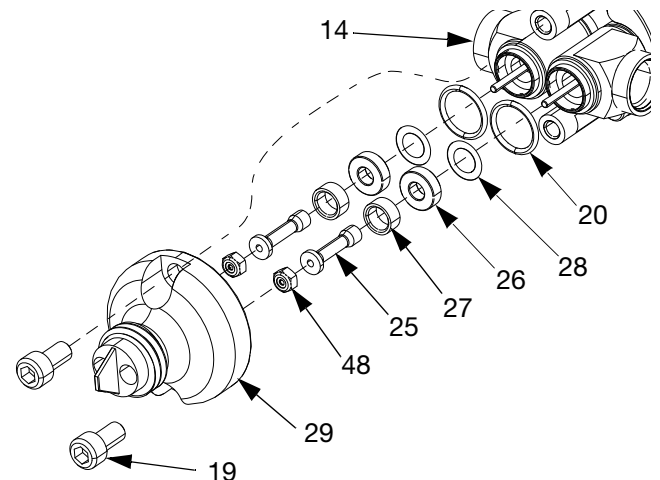
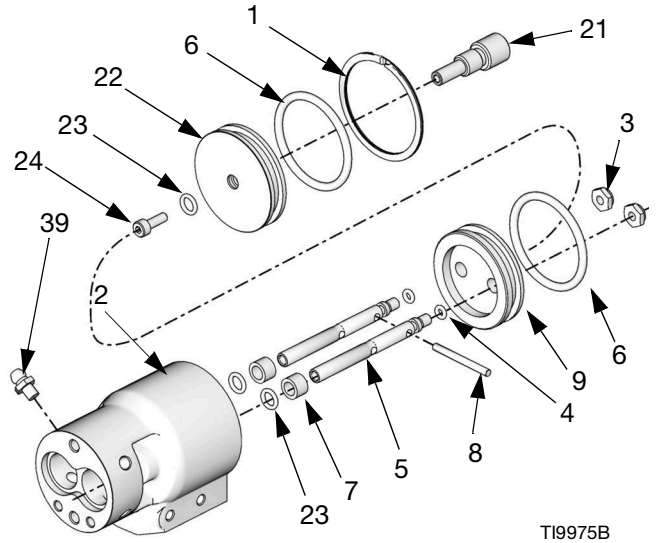

FIG. 6
FIG. 8
255901 and 255902 only: use a 1/4 socket to remove the nut (48) and needle sleeve (25), then remove the seats (27) and gaskets (28) from the inlet housing. See FIG. 6.
- Remove the retaining ring (1) from the back of the air cylinder (2). Push the two shafts (5) into the air cylinder (2) to dislodge the air cylinder cap (22). See FIG. 8.
- Push the two shafts (5) to dislodge the piston (9) assembly from the air cylinder (2).
- Use an o-ring pick to remove the o-rings (23) and use a screwdriver to remove the sleeve bearings (7) from the air cylinder (2).
- Remove the o-rings (6) from the piston (9) and air cylinder cap (22).
- Remove the screw (24) and snuff-back adjustment knob (21) from the cap (22). Use an o-ring pick to remove the o-ring (23).
- Remove the lock nuts (3), the pin (8), o-rings (4), and piston o-ring (6) from the shaft (5).
1. Lubricate the shaft o-rings (23) and the bearings (7). Insert o-rings into the air cylinder (2) and air cap (22) cavities. See FIG. 8.
255901 and 255902, slide the needle sleeve (25) onto the shaft (5) and secure with the nut (48). Tighten the nut to 2.5 in.-lb (0.3 N•m). See FIG. 6.
6. **255179 and 255181**, Insert the seals (26) with the springs facing into the fluid housing (14).
7. See **Nose Piece Orientation** on page 7. Install the nose piece (31) with the o-rings (20), seats (27), and nose piece screws (19). Tighten the nose piece screws to 115-120 in-lb (14-15 N•m).
8. **255181 and 255182**, Install injector tube (30) with assembly tool (48). Torque to 40-50 in-lb (4.5-5.6 N•m).
9. **255181 and 255182**, Install injector tip (47) and torque to 25-30 in-lb (2.8-3.4 N•m).
10. Remove zerk grease fitting (39). Fill grease in the grease port below until grease begins to exit where the zerk grease fitting (39) was located. Repeat for the other zerk grease fitting (39). See FIG. 8.